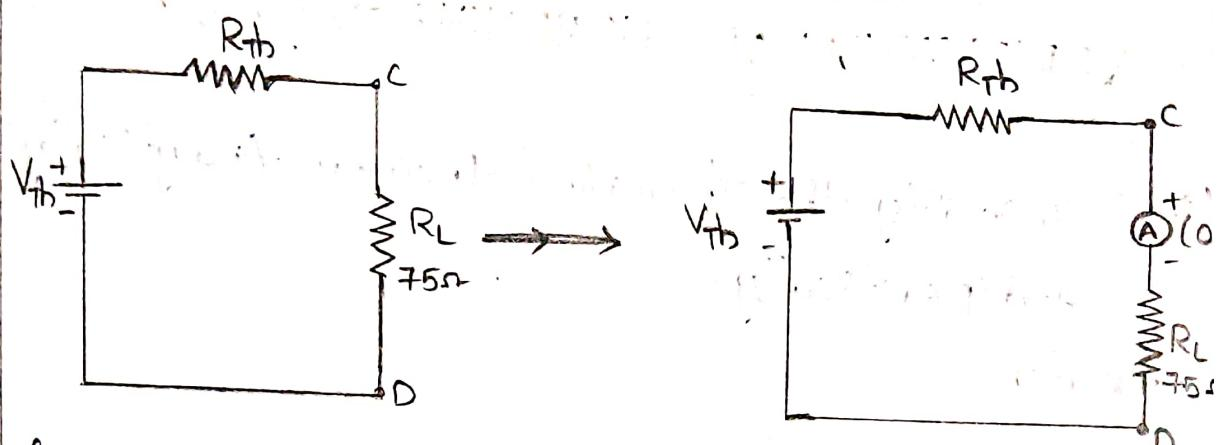

fig 4: Thevenin's equivalent circuit to find out load current.
1. Connect the circuit as shown in figure 4.